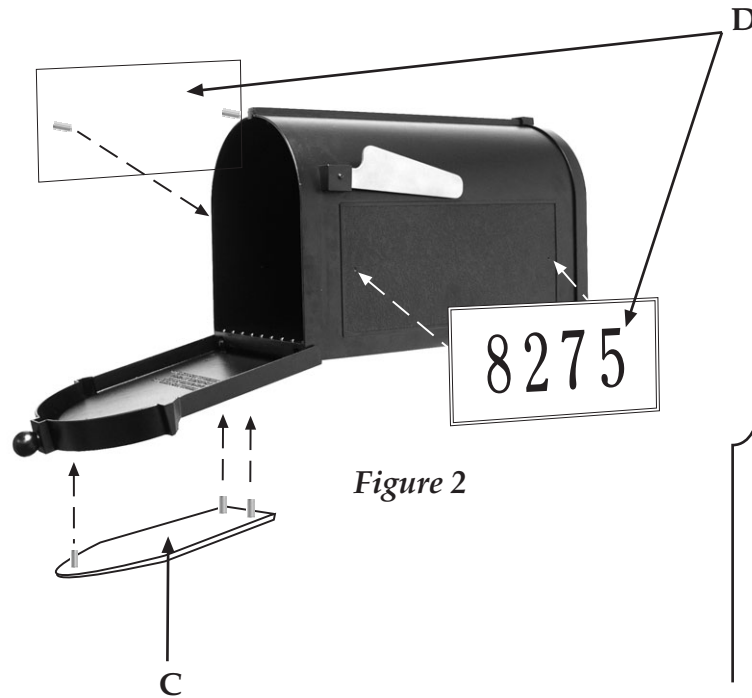

Figure 2
- 4) Position the side plaques (D) so the studs are pushed through the holes in the mailbox wall and the plaque is located within the border. *(See Figure 2)*
- 5) Repeat Step 4 for the door plaque (C). *(See Figure 2)*